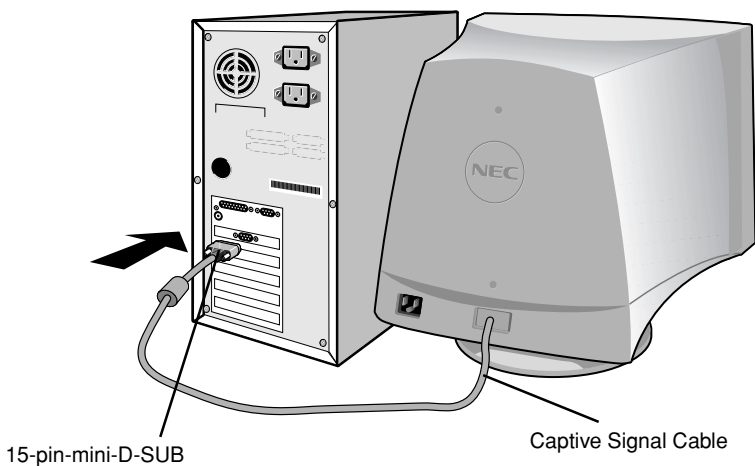

Figure A.1
3. **For the PC:** Connect the 15-pin mini D-SUB of the captive signal cable to the connector of the display card in your system (Figure A.1) Tighten all screws.